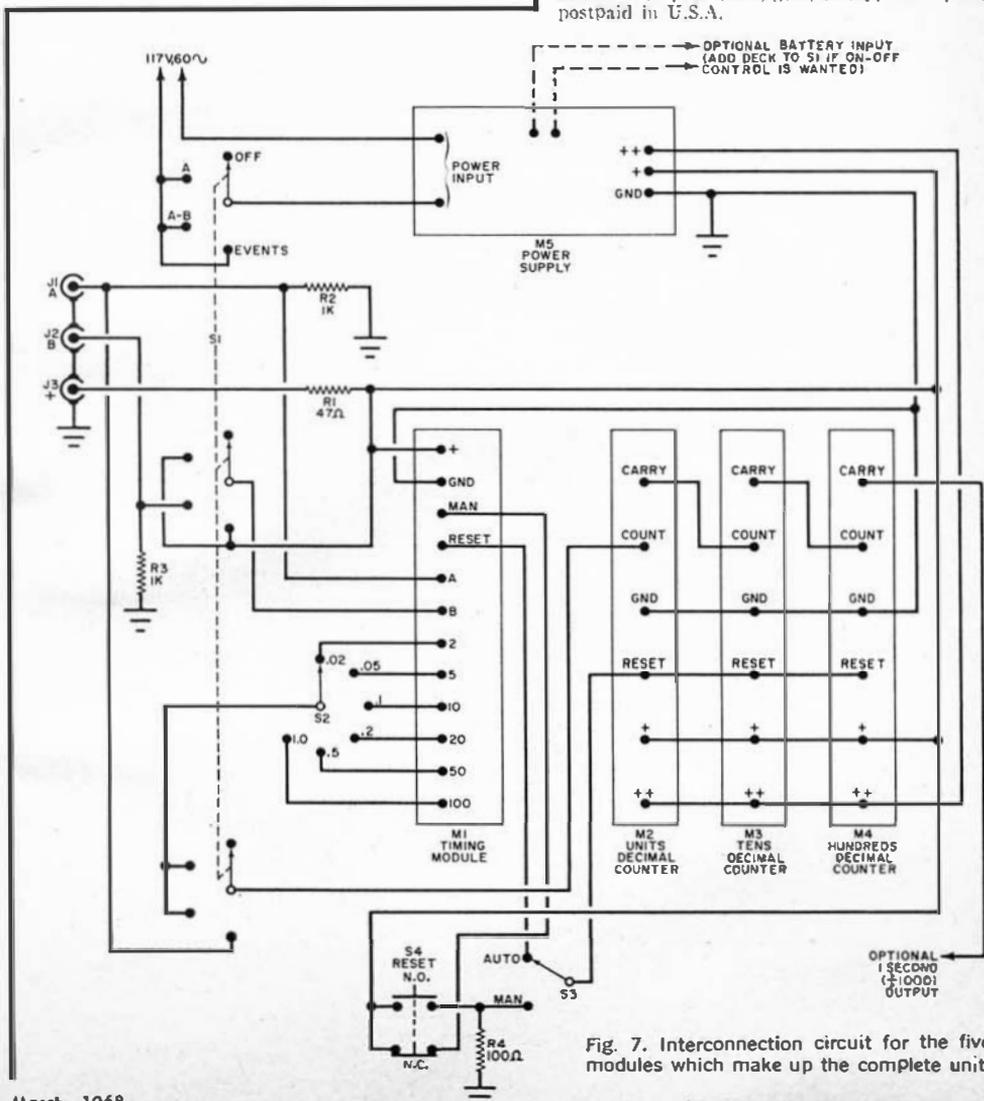

Fig. 7. Interconnection circuit for the five modules which make up the complete unit.
**Overall Assembly.** Figure 7 is the complete stopwatch interconnection schematic diagram. The overall assembly
Wire the various modules and switches together in accordance with Fig. 7. Use color-coded leads, and note that the deci-
If desired, the optional one-second output line in Fig. 7 can be used to drive an external "seconds" counter. -50-